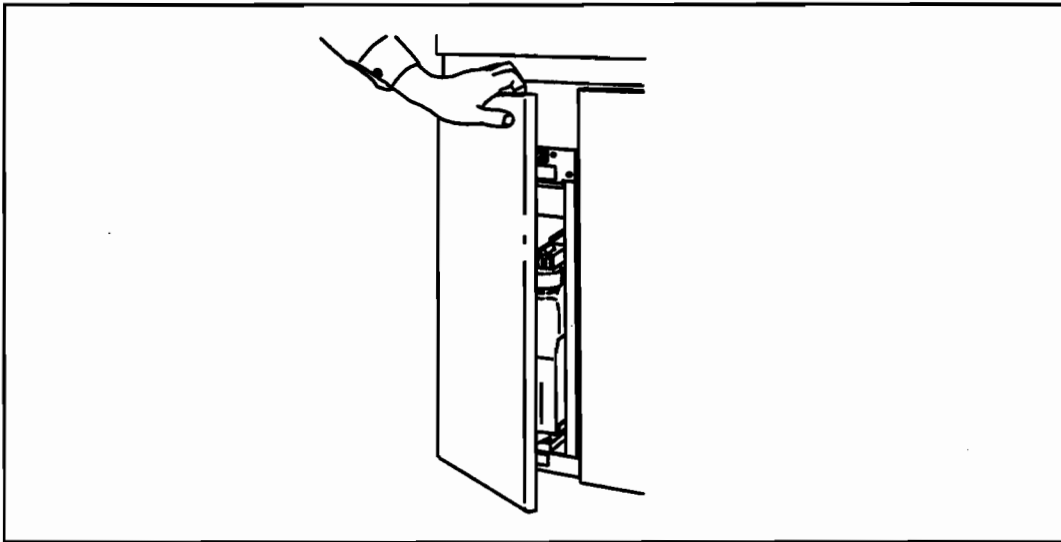

Figure 3-33. Toner Compartment Door
1. Open the toner compartment door. See Figure 3-33.